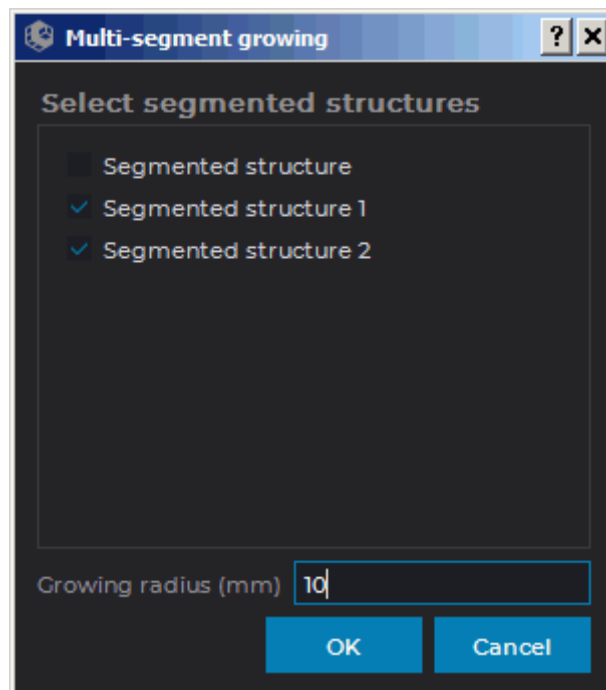

Figure 6.26: Multi-segment growing settings dialog
2. Activate the **Multi-segment growing**  tool (see Section 3.8.7). The dialog shown in Fig. 6.26 will be displayed.